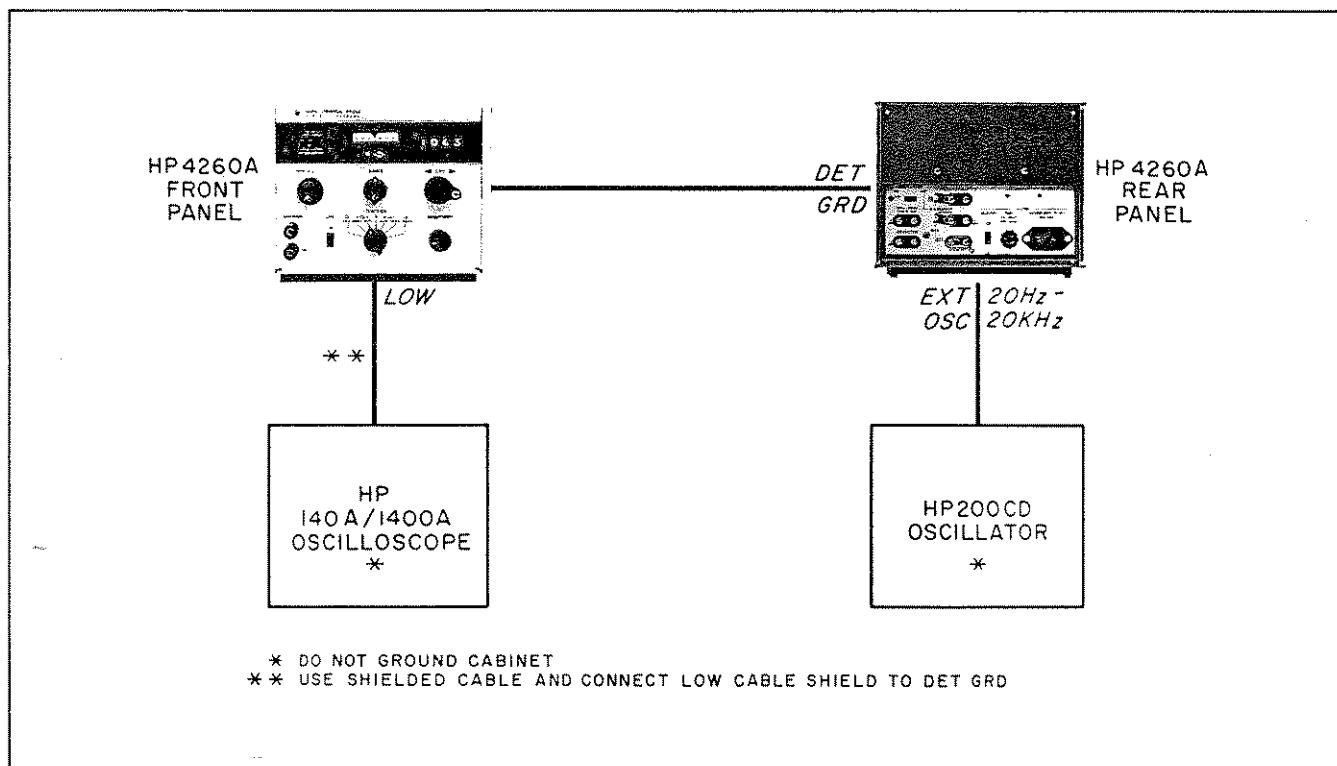

Figure 5-5. Test Setup for Adjustments
5-30. INTRODUCTION. The procedures in Paragraphs 5-31 through 5-38 outline checks and adjustments for the components in the bridge circuit. These include fixed 0.2 μ F capacitor C1, compensating capacitor C305, CRL resistor R3, trimmers C103, C104, C3, and accuracy of resistors in the RANGE switch. The test equipment setup is shown in Figure 5-5. These checks and adjustments should be performed in the order listed when a comprehensive overall instrument checkout is desired. Test equipment for these checks is listed in Table 5-6.
5-31. C1 CHECK. To check fixed bridge capacitor C1, connect the instruments as shown in Figure 5-5.
a. Connect the test setup as shown in Figure 5-5.
a. Connect test equipment setup as shown in Figure 5-5.
- a. Connect test equipment as shown in Figure 5-5.
- a. Connect test equipment setup as shown in Figure 5-5.
- a. Connect test setup as shown in Figure 5-5.